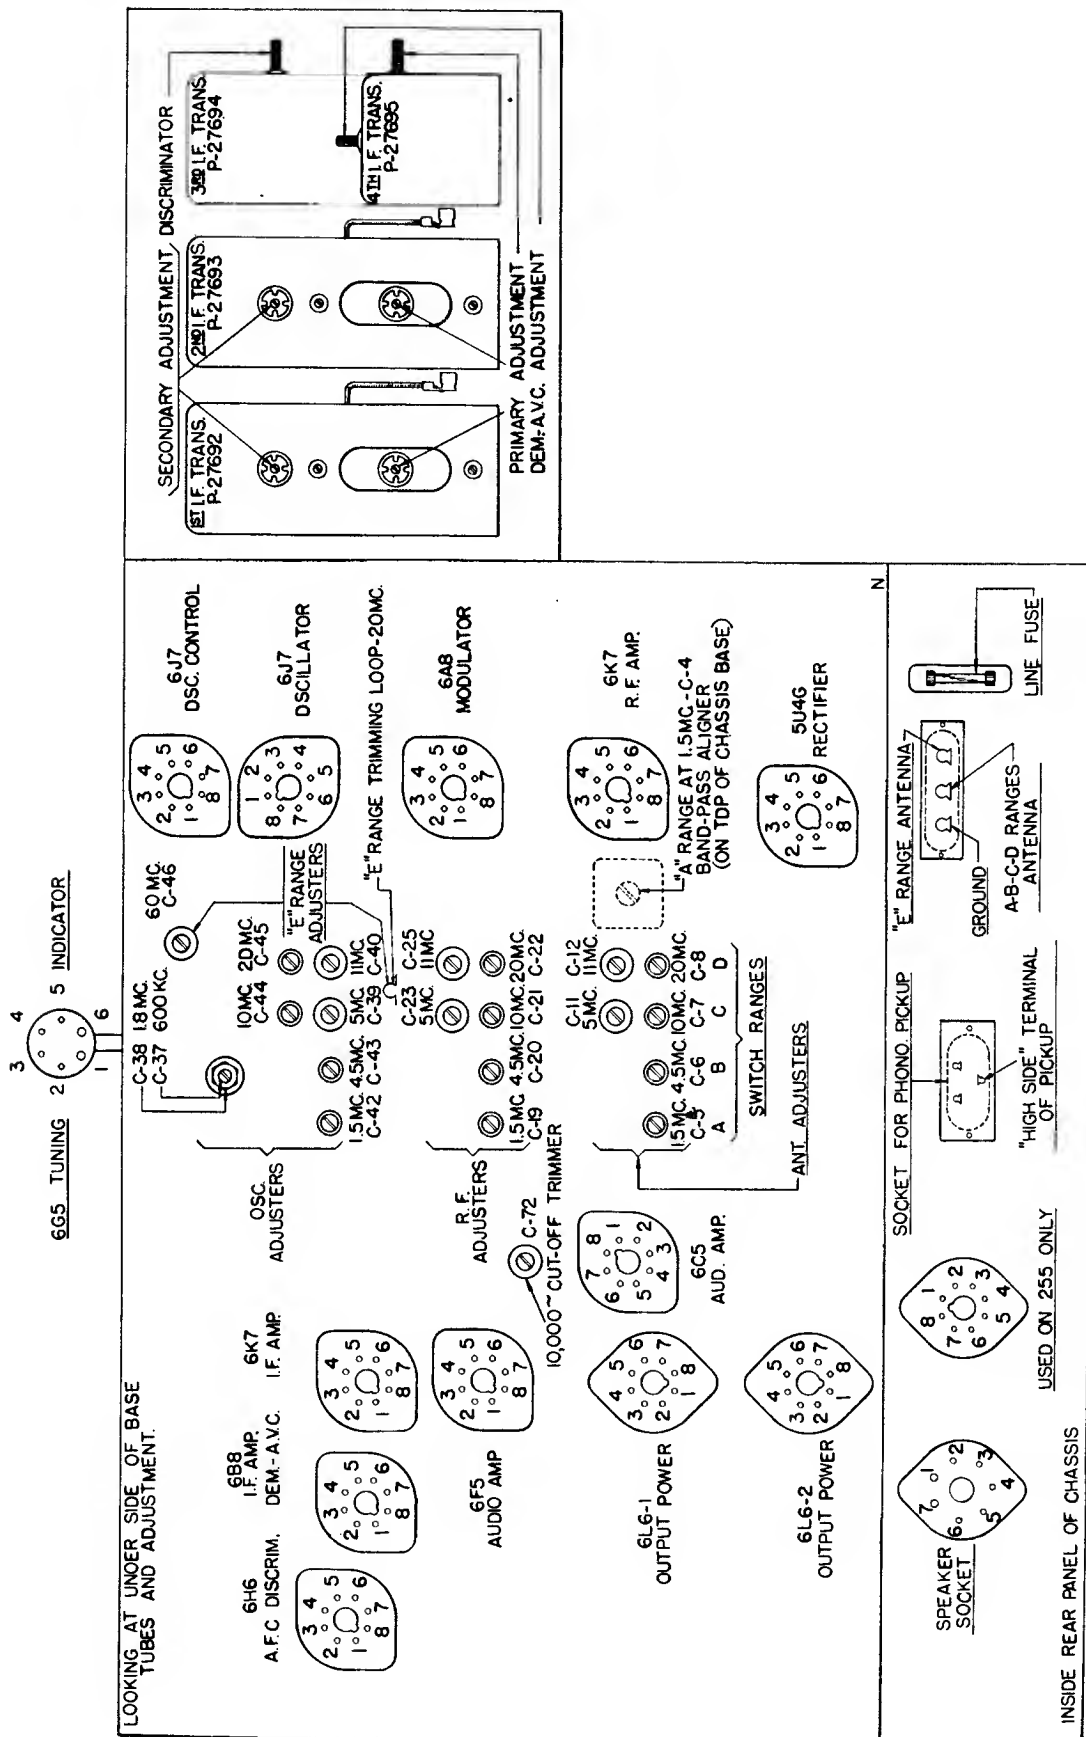

Fig. 1. Terminal Layout for Voltage Measurement Chart and Location of the Various Aligning Adjustments.
The various values of voltages listed in the following table are obtained by measuring between the various tube socket contacts and the chassis base, with the tubes in their respective sockets. The receiver is, therefore, in operation when the measurements are made. Figure 1 shows the terminal layout of the sockets with the proper terminal numbers.
minimum value where a good alignment may still be obtained, except when specifically directed in these instructions. Figure 1, shows the location of all the aligning capacitors or adjustments for this receiver. It will not be necessary to remove the chassis in this receiver from its cabinet in order to make any alignment adjustments. The alignment adjustments for the Intermediate Frequency circuits are accessible from the rear of the receiver, and the adjustments for the Radio Frequency circuits are accessible through the apertures located in the bottom metal base plate of the chassis. These apertures are easily accessible through the bottom of the cabinet shelf. Never align any of these receivers without having the metal base plate fastened to the chassis base.
3. Now noting from Figure 1, the alignment adjustments for the First, Second, Third, and Fourth I. F. Transformers, align the I. F. circuits in the following manner: